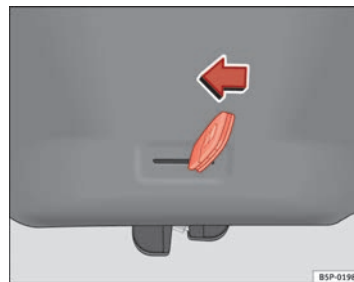

Fig. 68 Rear lid: emergency open
- Insert the key in the groove and unlock the locking system, turning the key from right to left, as shown by the arrow → Fig. 68.